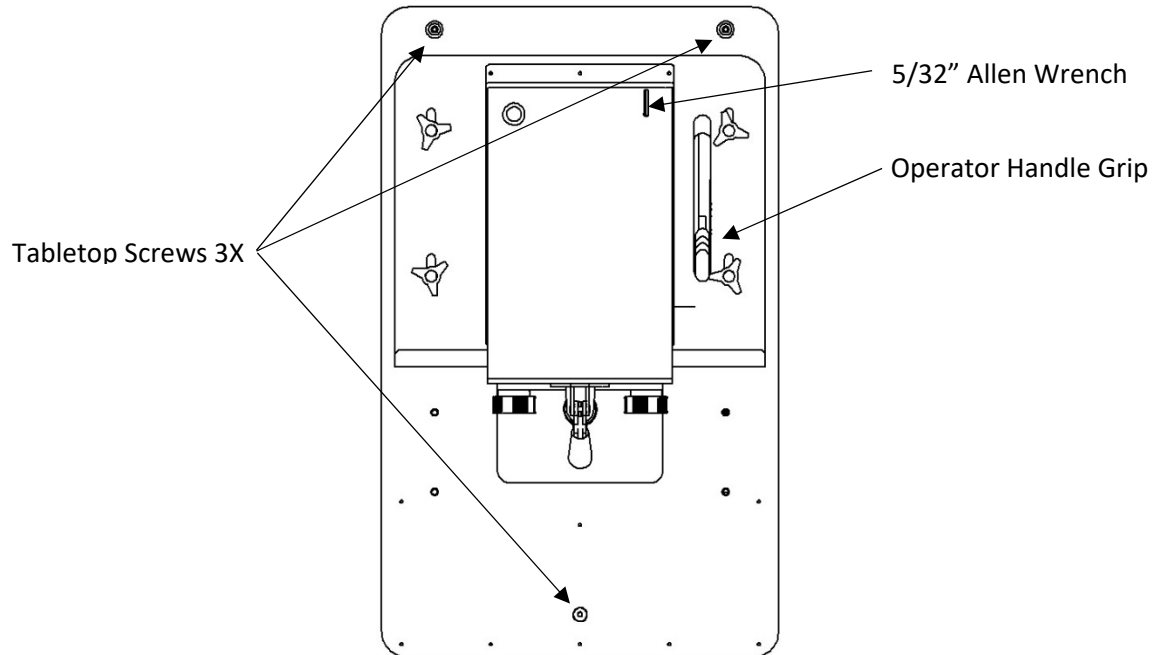

Figure 10: Tabletop Screws
1. Remove operator handle grip (Figure 10).
2. With the supplied 5/32" Allen wrench (Figure 10), remove the 3X screws holding the tabletop to the frame (Figure 10).